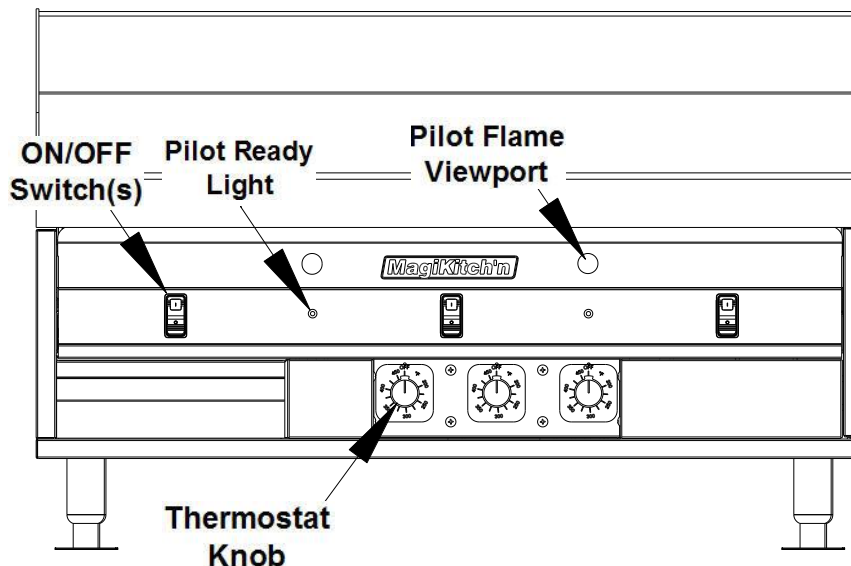

Figure 7
3. Turn the **RED "I/O"** switch to the **"I"** (ON) position for all desired Thermostats to be operated, See Figure 7. When the Pilot Ready (Yellow) light illuminates, the pilot(s) are ready to operate the main burners.